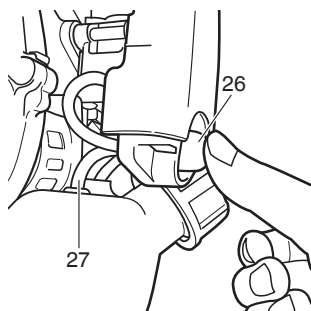

Fig. 16
- (2) Push priming bulb (26) several times so that fuel flows through return pipe (27). (Fig. 16)